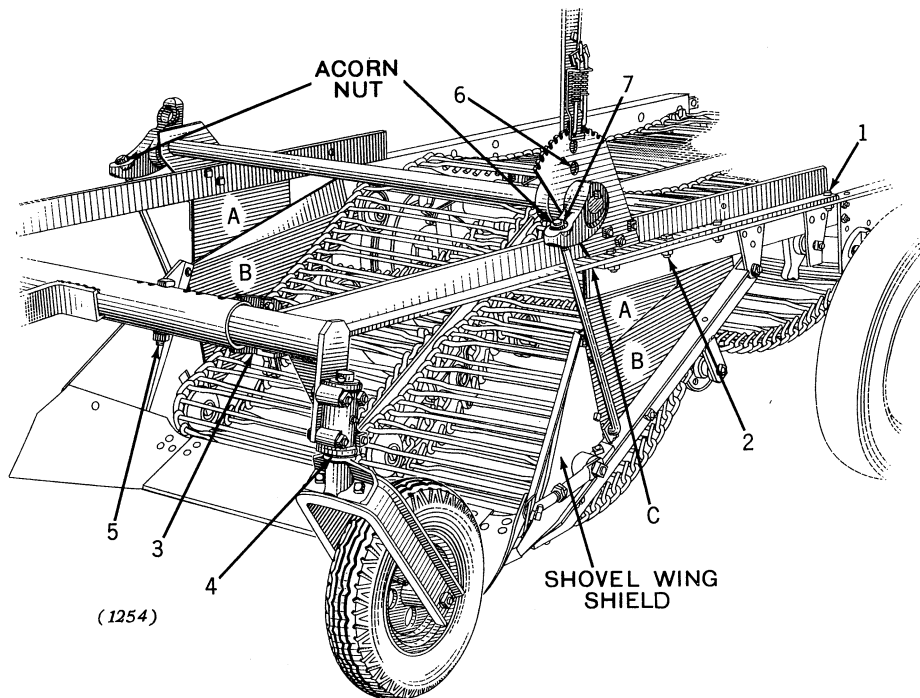
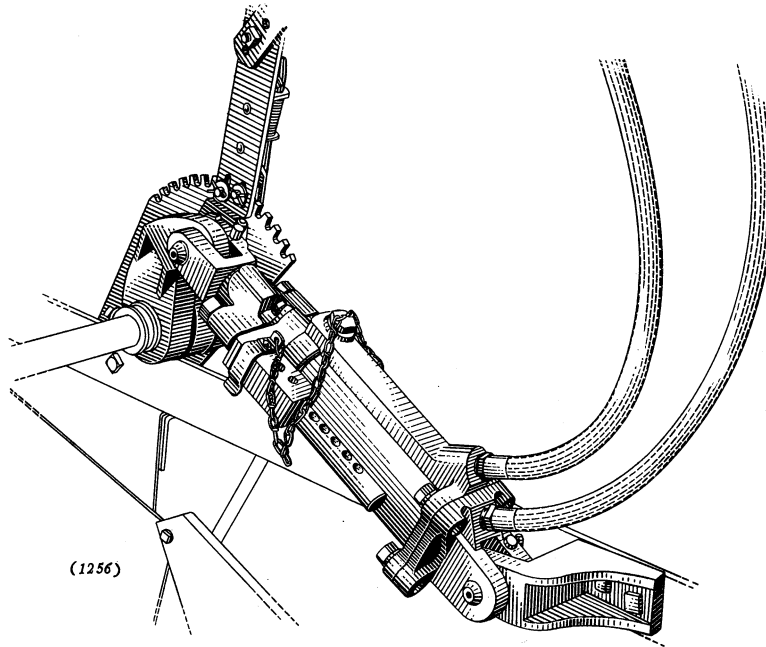

Figure 15
Figure 22
Place the lever in the rear notch of the sector and adjust the acorn nuts on the lift rods so that the shovel wing shield just misses hitting the underside of the angle frame at point "C" (Figure 15).
1. (Figure 22) Mount cylinder bracket on left-hand beam angle.
2. (Figure 22) Set hand lever in the transporting notch of the sector, loosening adjusting nuts, if necessary, to just keep the vine shields from contacting the frame at "C" (Figure 15), page 16.
3. (Figure 22) Attach power cylinder as shown.
4. (Figure 22) Attach extension hose, received with the digger, using the necessary couplings. The reducing couplings are for use on the Model "GM" Tractor only.
5. (Figure 22) After the digger is attached to the tractor, connect the power control hose to the tractor.
Raise the shovel to the transporting position, as outlined above, and **KEEP THE POWER CONTROL IN THIS POSITION.** Adjust the nuts so that the vine guards just miss the frame of the digger at "C" (Figure 15), page 16.